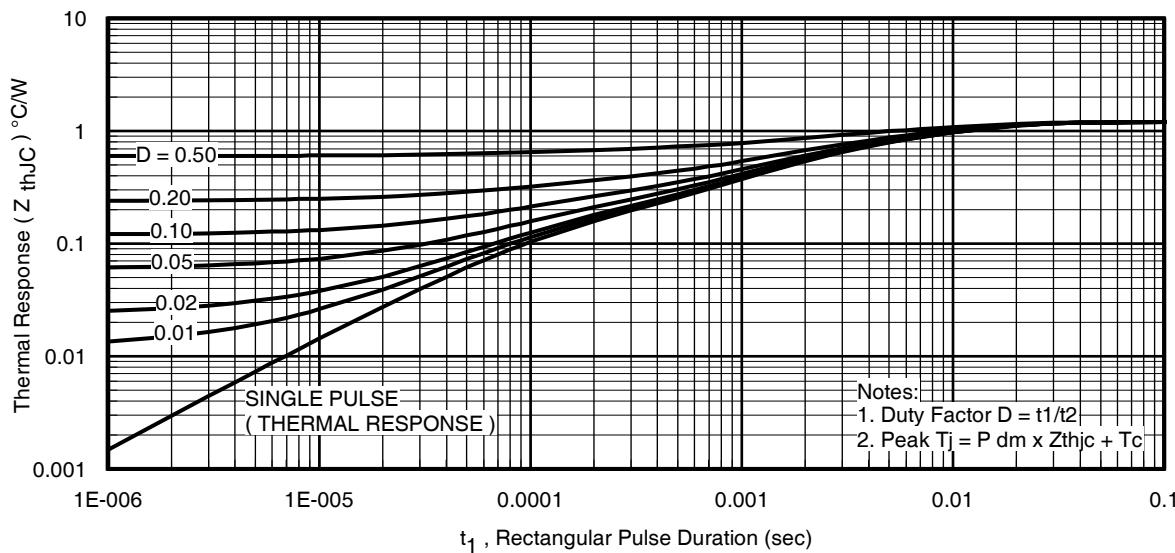

Fig 14. Maximum Effective Transient Thermal Impedance, Junction-to-Case
**Notes on Repetitive Avalanche Curves , Figures 14, 15:
7. ΔT = Allowable rise in junction temperature, not to exceed T_{jmax} (assumed as $25^{\circ}C$ in Figure 14, 15).